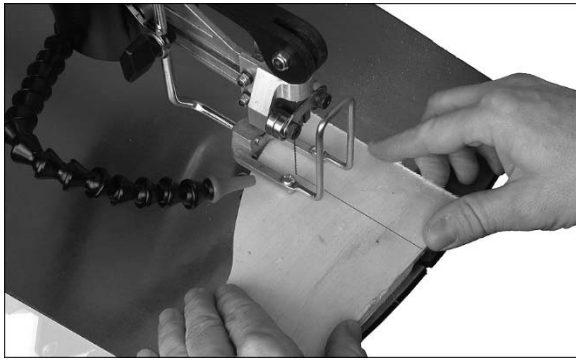

Figure 25: straight cutting
5. Hold workpiece firmly against table and feed workpiece directly into front edge of blade with steady pressure. See Figures 25 and 26. Do not use excessive pressure – allow the blade to do the work. Compensate for blade drift.